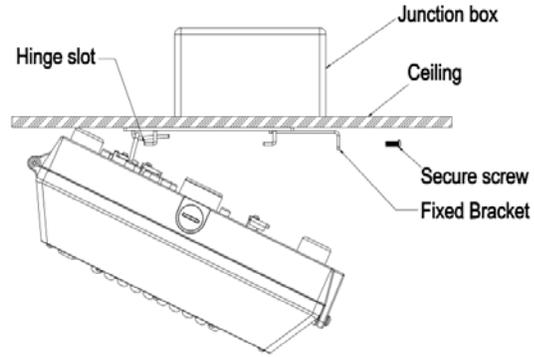

FIG.5
2. Secure fixture to mounting bracket's hinge slots (see FIG. 5).